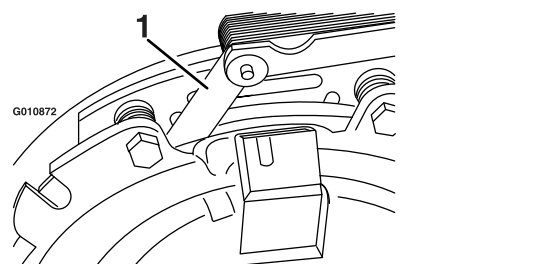
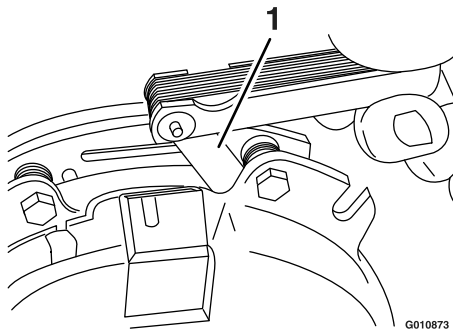

Figure 69
Figure 70
- E. Using a 0.25 mm (0.01 inch) thick feeler gauge, verify that a gap is present between the rotor and the armature face on both sides of the brake pole as shown in Figure 69 and Figure 70.